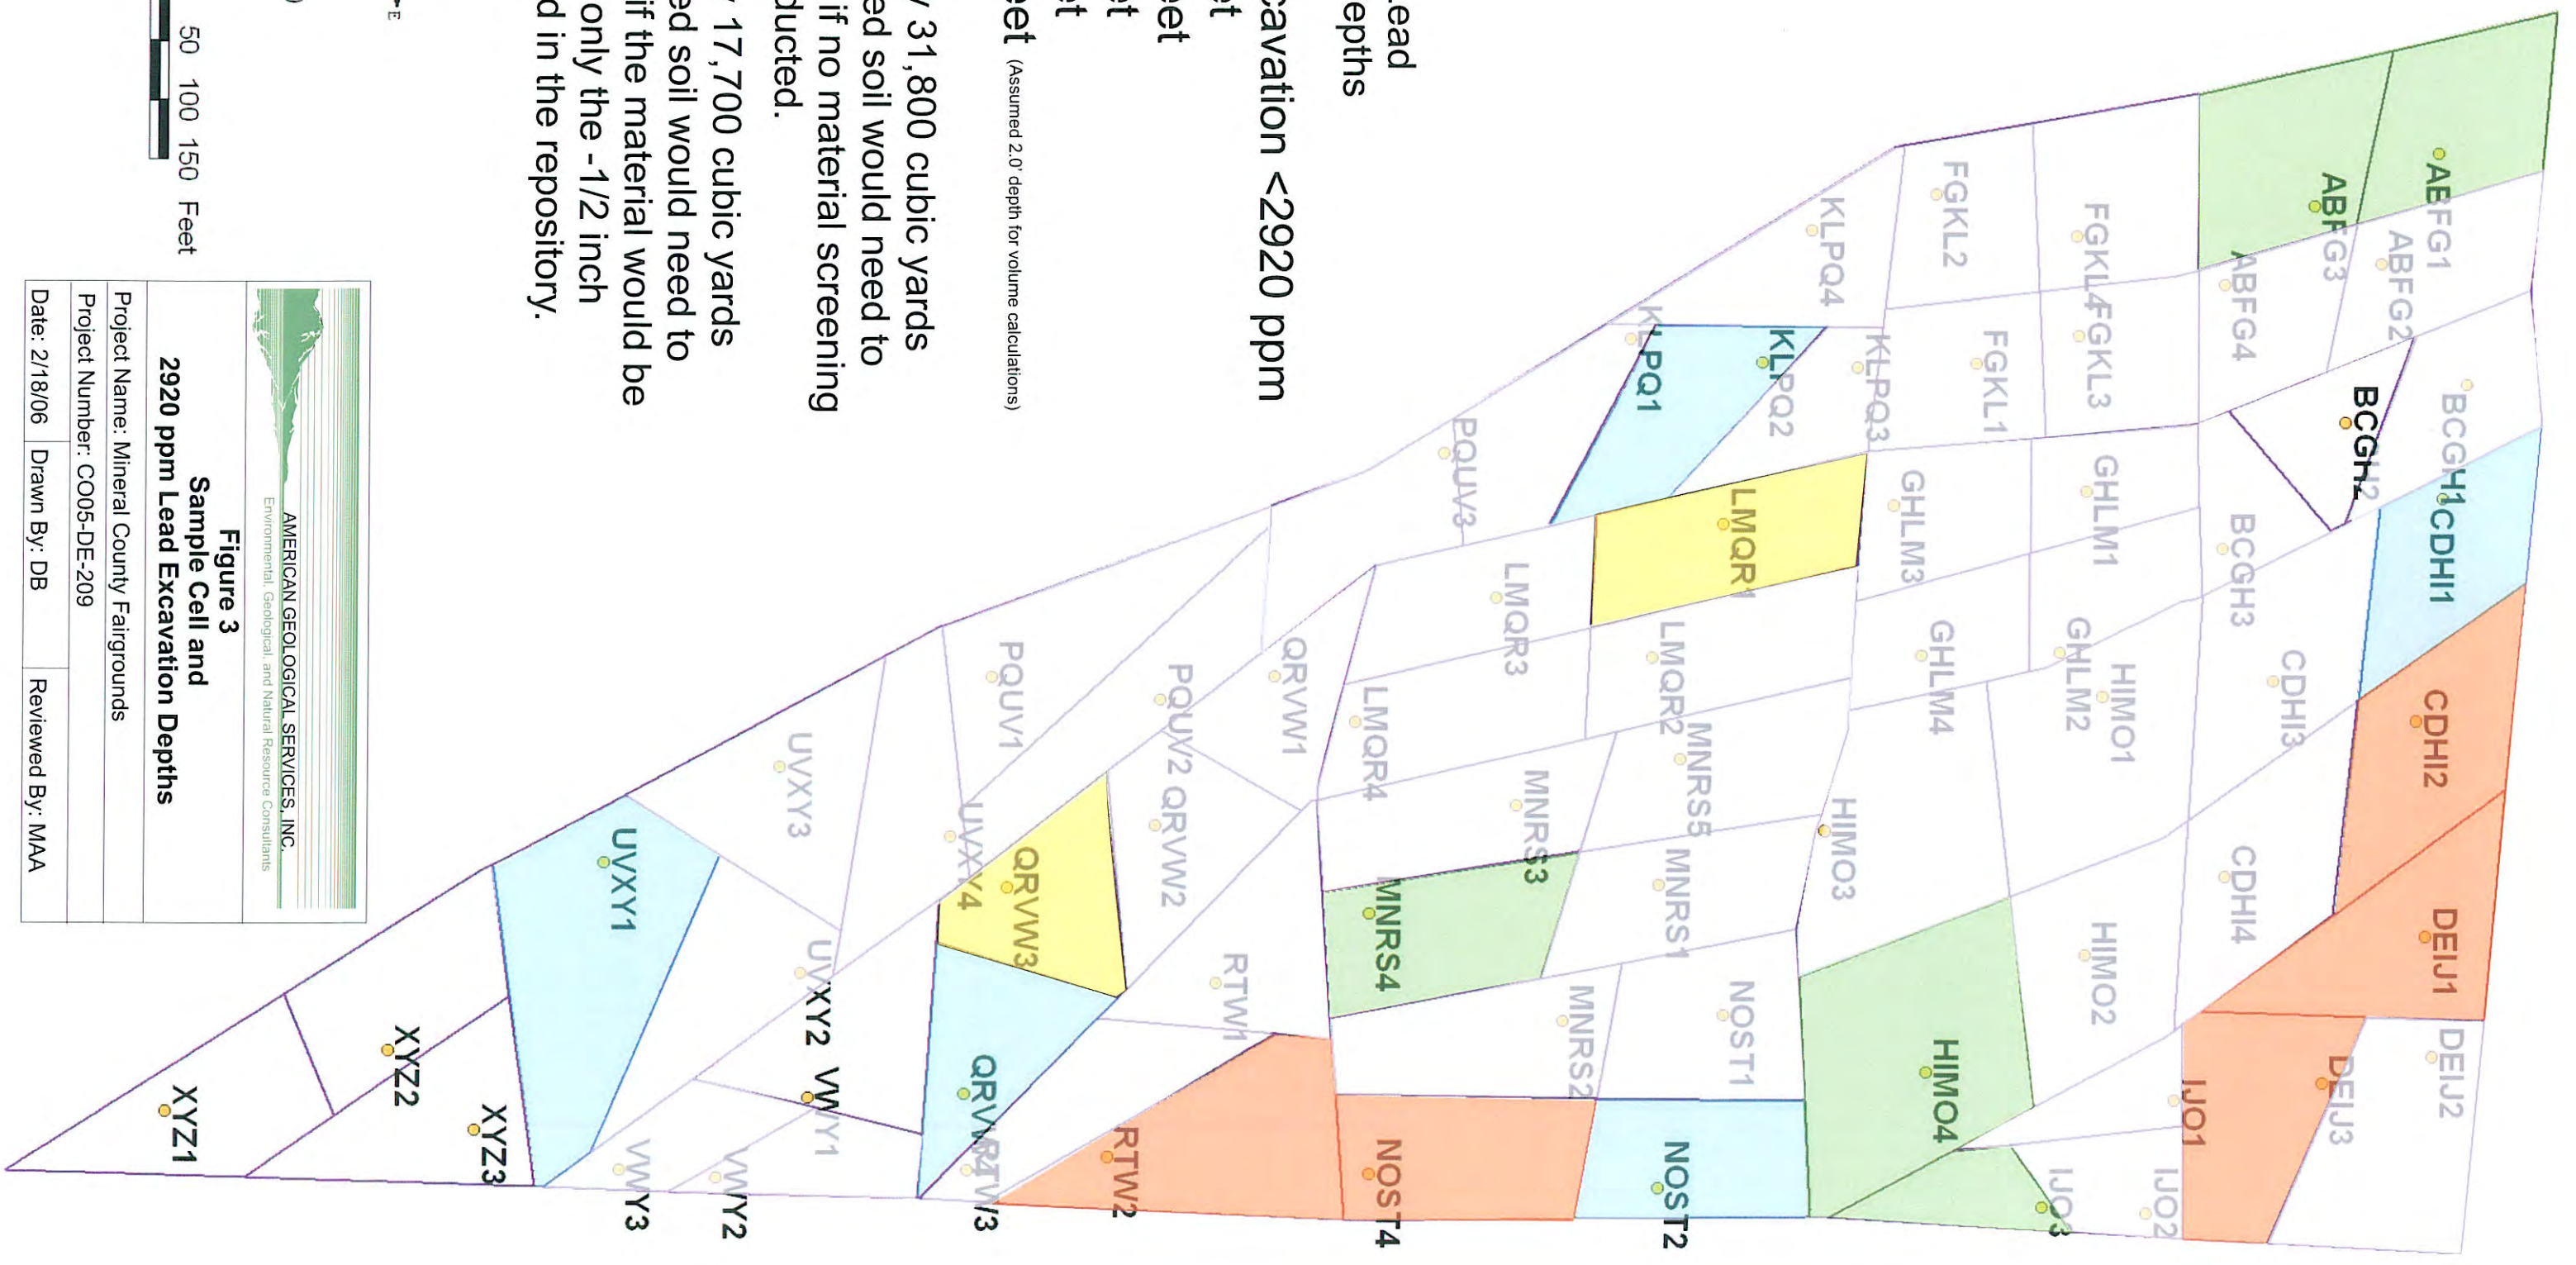

Figure 2
2. Figure 2 400 ppm lead excavation depths